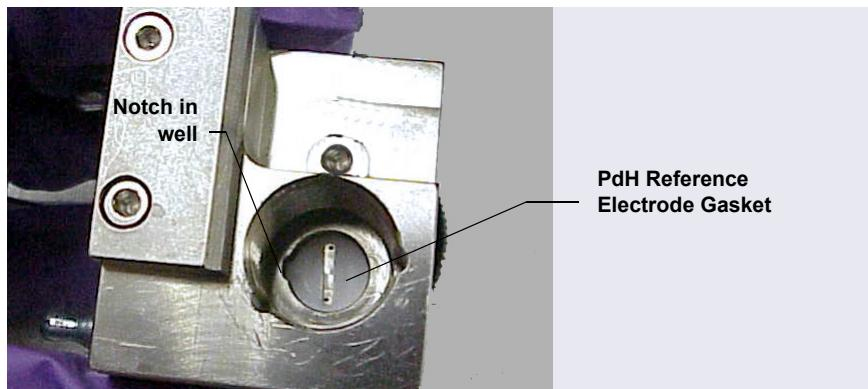

Figure 10-73. Removing the PdH Reference Electrode Gasket
4. Using tweezers, remove the PdH reference electrode gasket from the well (see Figure 10-73).